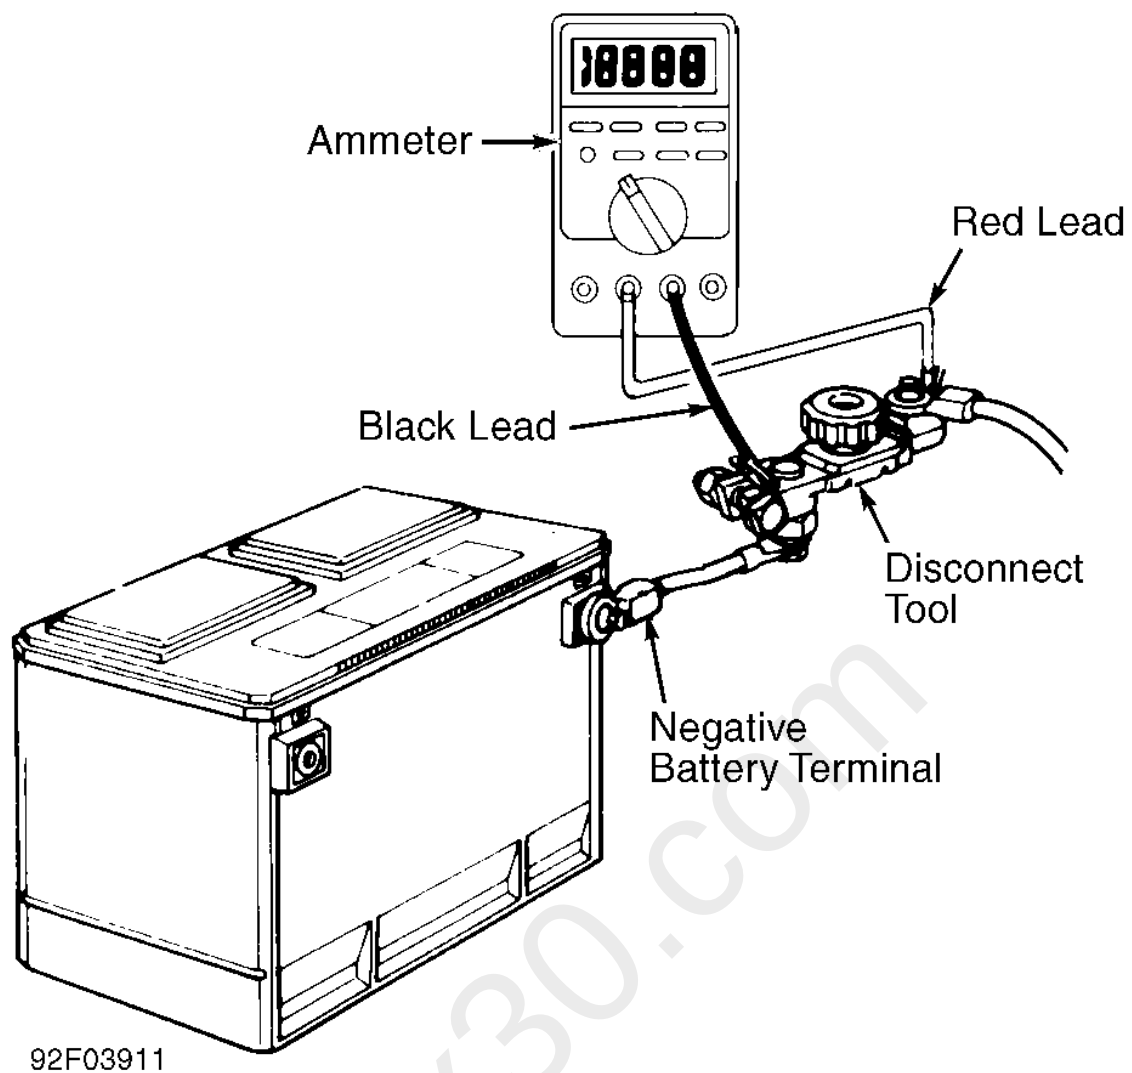

Fig. 1: Connecting Kent-Moore Disconnect Tool (J-38758)
2. Turn test switch knob to ON position (current through switch). Road test vehicle with vehicle accessories on (radio, air conditioner, etc). After road test, turn ignition switch to LOCKED position and remove key. Connect ammeter terminals to test switch terminals. See Fig.1. Select 10-amp scale.
To find an intermittent problem requires that an ammeter and Disconnect Tool (J-38758) test switch be connected and left in the circuit. See Fig.1. Road test vehicle. After road test, turn ignition off and remove key.